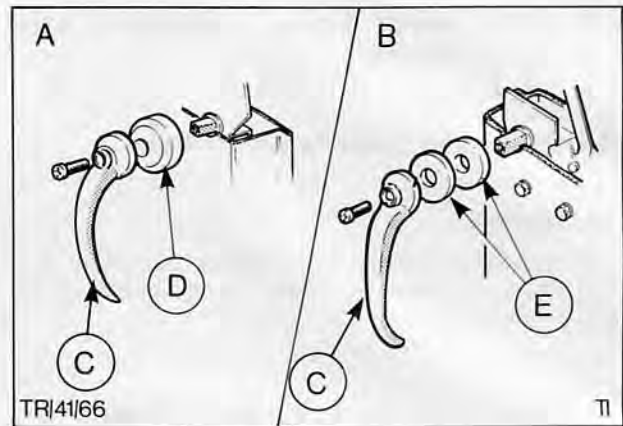

Fig. 52. Interior handle assemblies
1. Remove interior handle by unscrewing cross-head screw and washer from centre of handle boss (where fitted), Fig. 52.